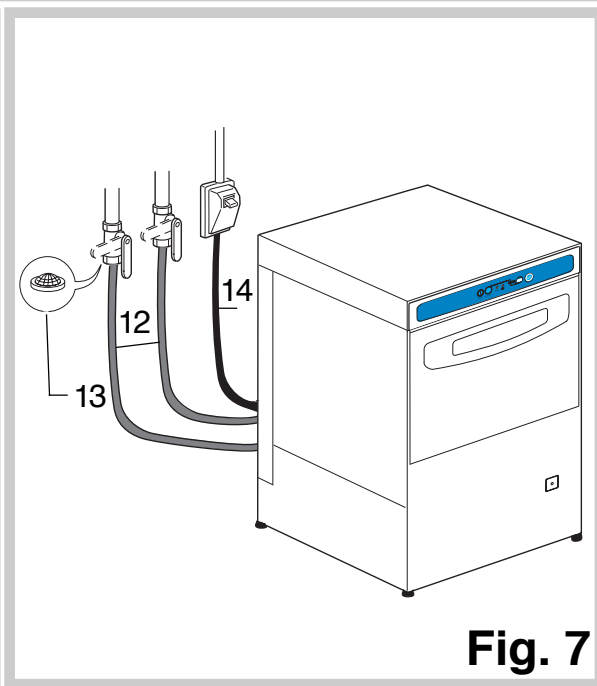

Fig. 7
- Screw the end of the fill pipe (12A) to a 3/4"G threaded cock, fitting the filter (13 Fig. 7) in between.
- Screw the end of the fill pipe (12B) to a 3/4"G threaded cock, fitting the filter (13 Fig. 7) in between.